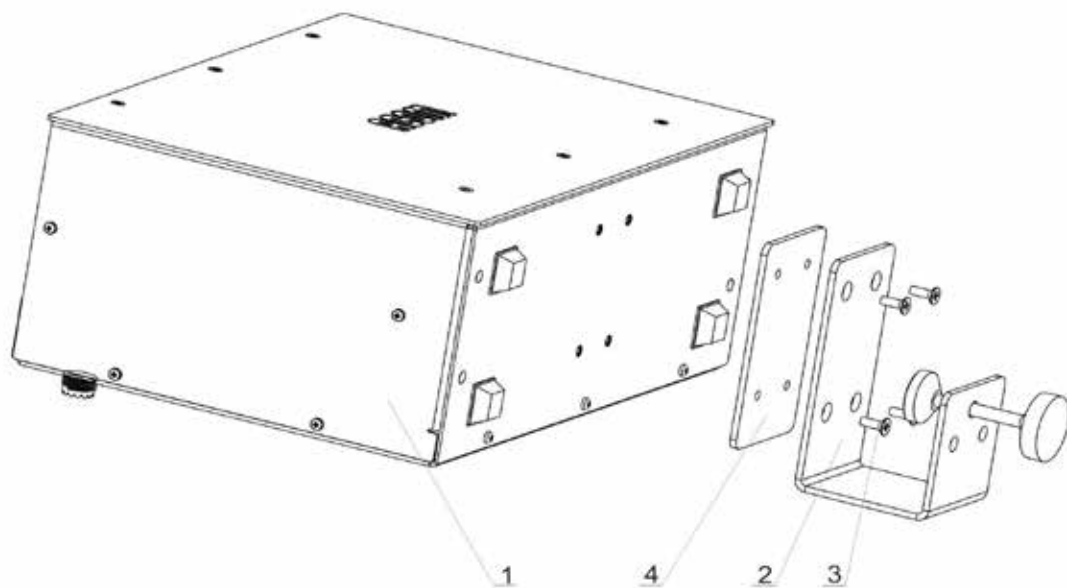

Fig. 2-2. Desk installation bracket
If the desk mounting option is chosen, the tuner is placed on the desk with the connectors facing to the back, rubber feet facing down and secured in place with the provided desk bracket (Fig. 2-2). The decorative black anodized aluminum faceplate provides an aesthetic look, matching any high-end ham radio setup.
The desk bracket (2) is secured to the tuner body (1) via 4 flat-head bolts (3) - Fig. 2-2. Be sure to place the provided metal spacer plate (4) between the bracket and the tuner body. The bracket is finished off with black polymer paint, reducing the possibility of accidental scratching of the desk surface.